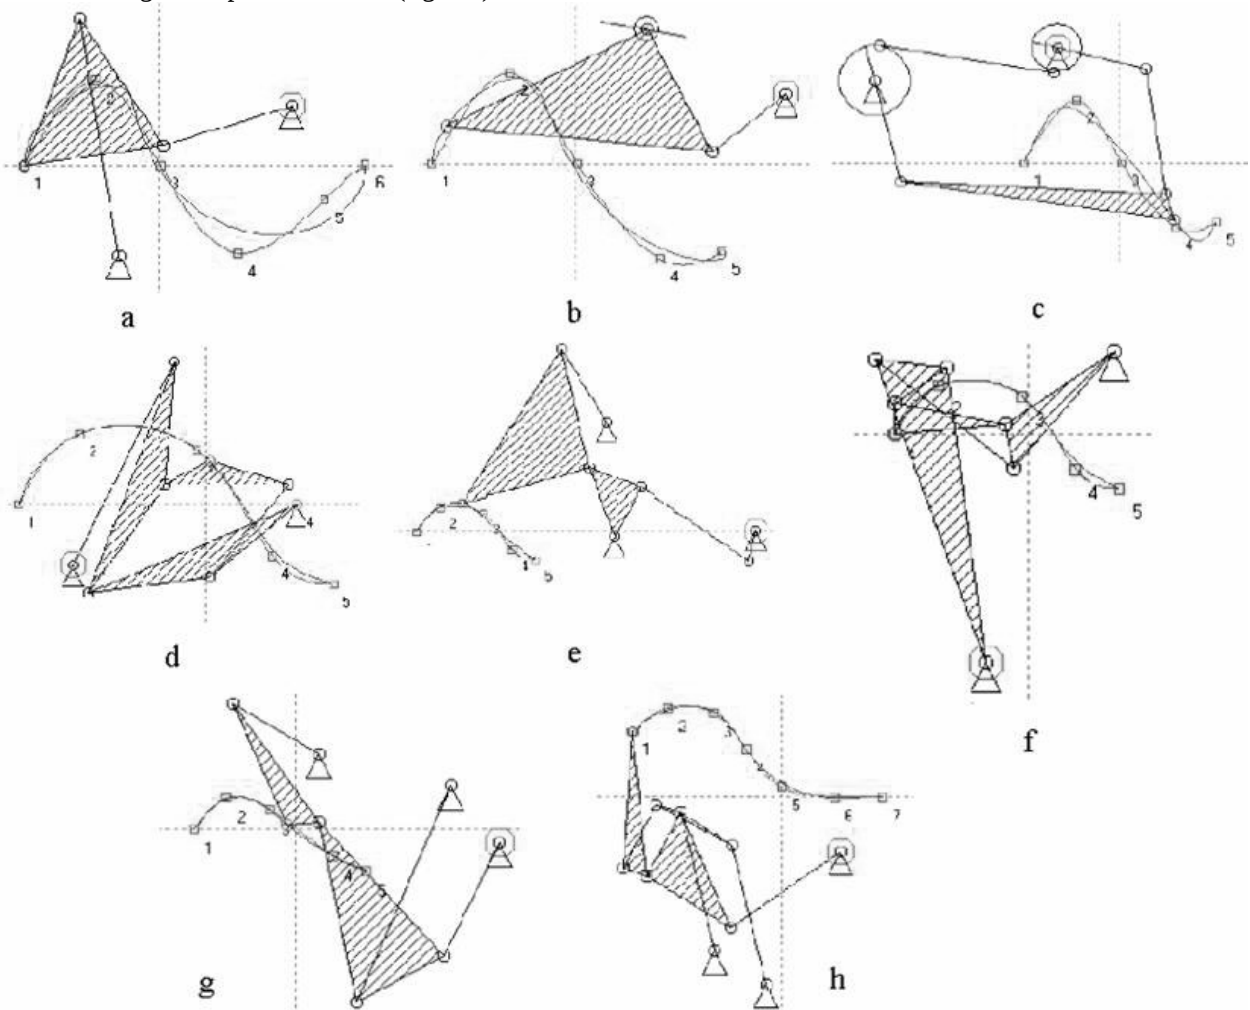

Fig. 1. Mechanism types
1. Four bar (fig. 1.a)
2. Four bar slider (fig. 1.b)
3. Five bar belt-wheel (fig. 1.c)
4. Watt 1, six bar (fig. 1.d)
5. Watt 2, six bar (fig. 1.e)
6. Stephenson 1, six bar (fig. 1.f)
7. Stephenson 3, six bar (fig. 1.g)
8. Eight bar, parallel motion (fig. 1.h)